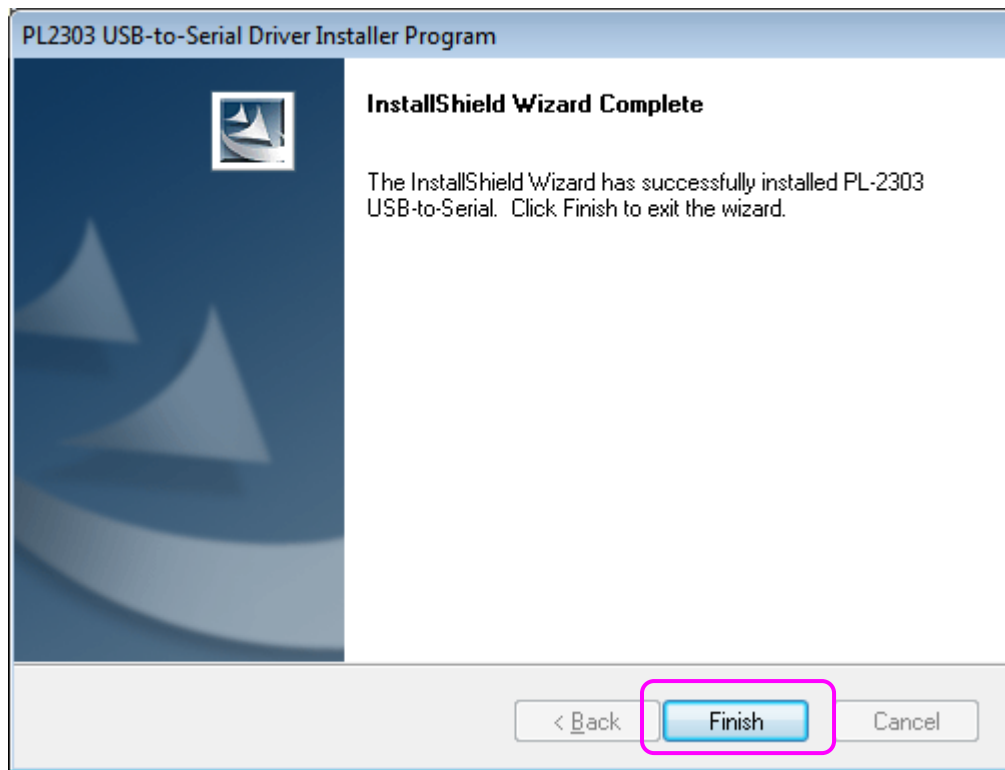

Fig 2-2
Step2 : If the driver is installed successfully, Click [Finish]. (Fig 2-2)